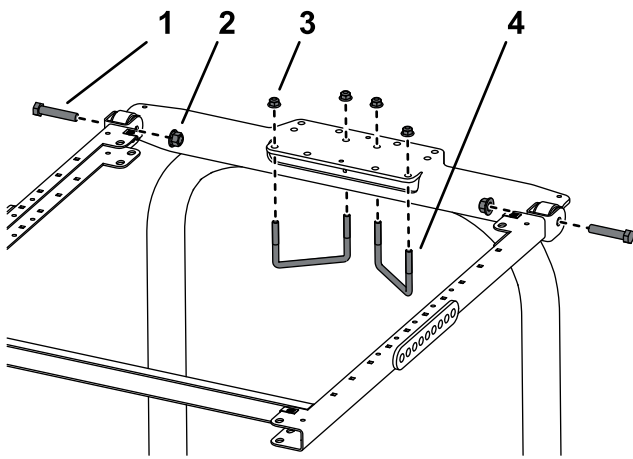

Figure 25
8. Position the ROPS-mount bracket onto the top of the traction unit roll bar (Figure 25).
9. Using the mounting holes shown in Figure 25, mount the bracket to the top of the roll bar with 2 U-bolts (4-1/2 x 2-3/4 inch) and 4 flange nuts.